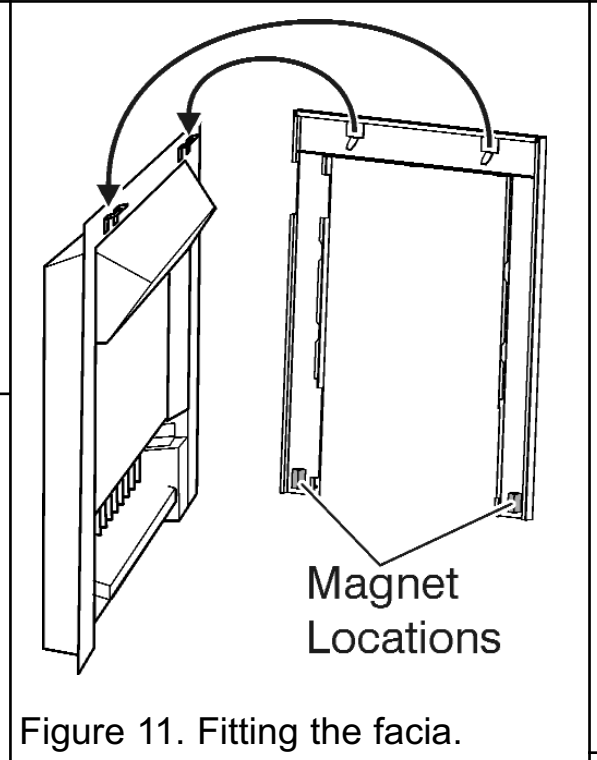

Figure 11. Fitting the fascia.
1. The magnets may have moved in transit. Locate the magnets as in figure 11.
2. Fit the fascia to the firefront by hooking the brackets on the rear of the fascia over the brackets on the firefront. Be careful to keep the magnets at the bottom of the fascia away from the firefront until the hooks are in place (See figure 11). Then allow the fascia magnets to secure the bottom of the fascia to the firefront.